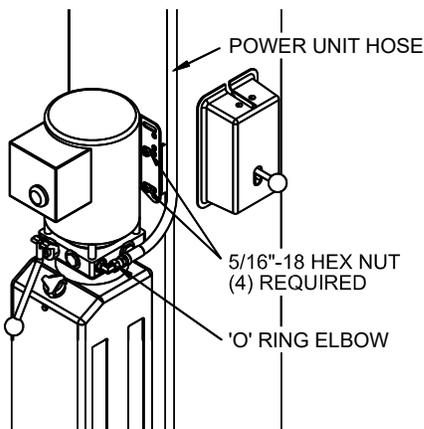

Fig. 12 – Power Unit Mounting
27) Mount power unit to power column as shown in **Fig. 12**. The mounting hardware, (4) 5/16" -18 hex nuts, are pre-installed on power unit mounting bracket.
- 31) Thread 9/16-18 O-ring elbow (*in hardware box*) into power unit. Attach free end of power unit hose to elbow. See **Fig. 12**. CAUTION do not damage rubber O-ring.